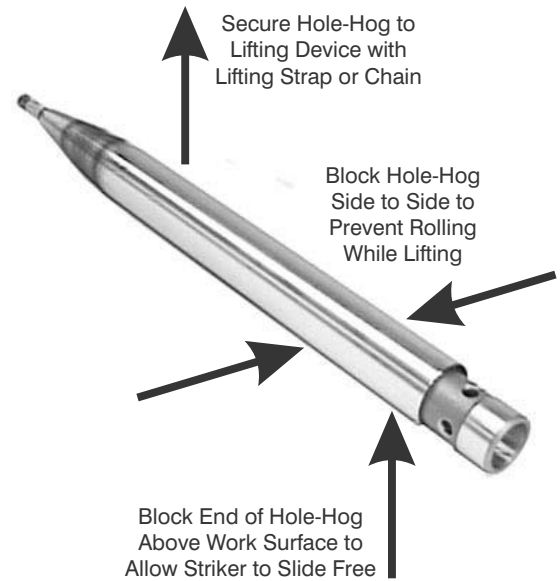

Figure 8-5. Tilting the Body/Anvil to Access the Striker
- b. Tip the Body/Anvil (1) so the end of the Striker (2) slides out of the Body/Anvil about six to eight inches. (Figure 8-5).